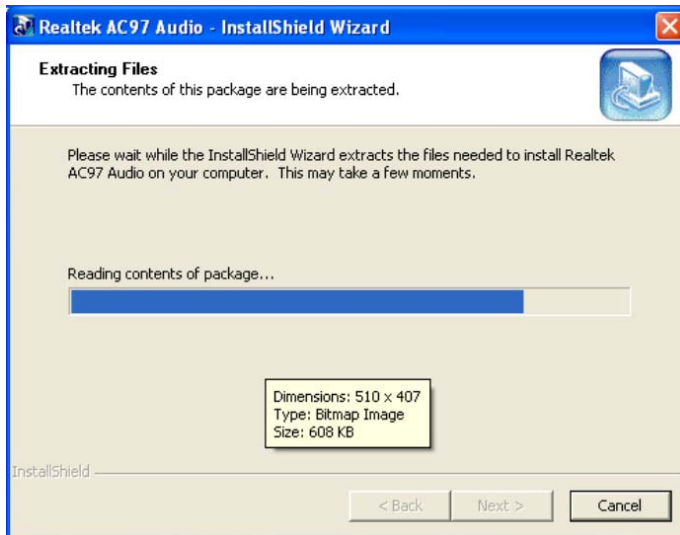

Figure 6-20: AC’97 Driver Installation File Extraction
Step 5: The installation files are extracted as shown in Figure 6-20.